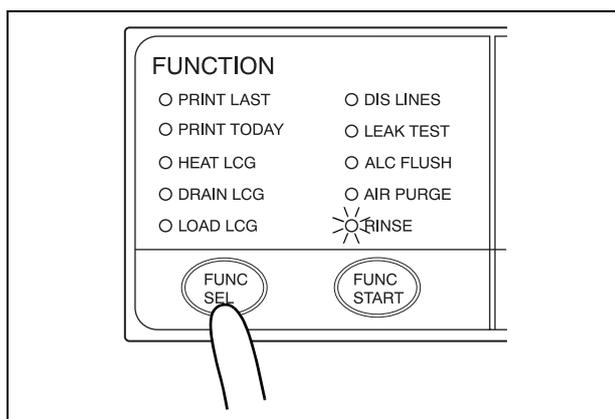

Figure 7.42
10. Press the FUNC SEL button on the subcontrol panel to select "RINSE" (see Figure 7.42).